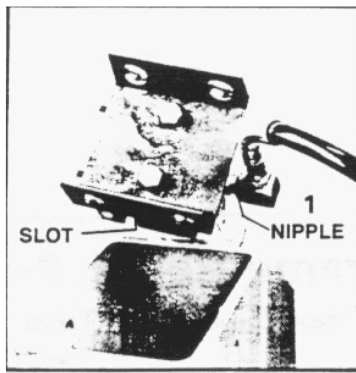

FIG. 2
IMPORTANT: The slot on the top plate must be positioned as shown in FIG. 2.
3. Attach the nipple (FIG. 2, Item 1) to the ram. Attach elbow to the nipple, positioning the elbow as shown.